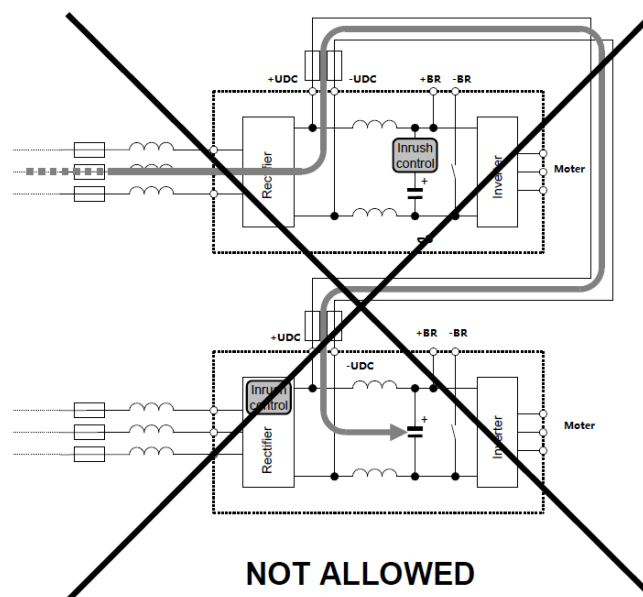

Figure 2 No inrush limitation when Micro drive are supplied from mains and combined with AC-inrush limit.
- When Micro drive with other type of inrush principle. In this combination the Micro drive *can not* be connected to mains. See Figure 2.